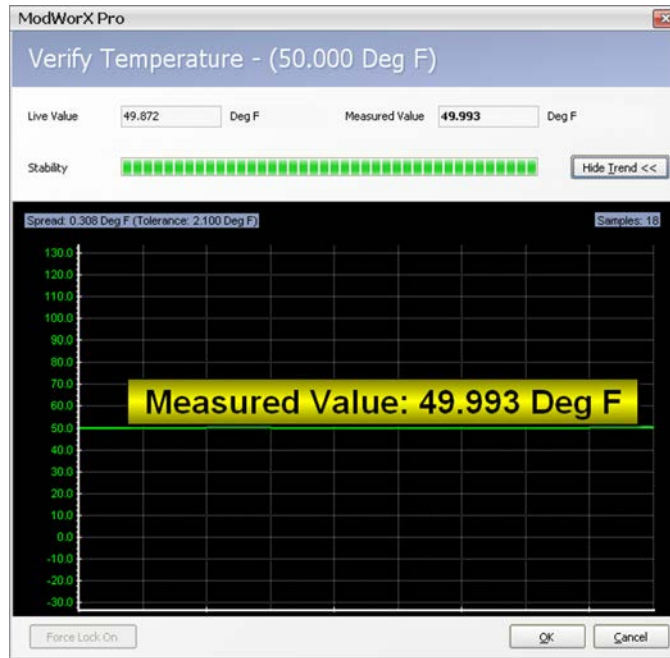

Figure 8.22
8. When the Scanner reads 10 consecutive readings (within the tolerance based on the range of the sensor), it will “lock on” to that data set and display a “measured value” (Figure 8.22, page 116).